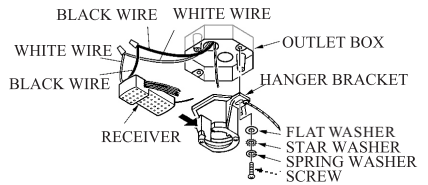

FIG.3
1. Securely attach the hanger bracket to the outlet box by washers and screws supplied. Connect white wire from ceiling to white wire from receiver with wire nut. Connect black wire from ceiling to black wire from receiver with wire nut. (see Fig 3)